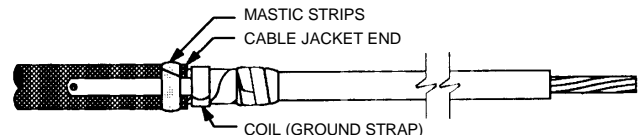

Figure 4
- b. Wrap 1 piece under grounding strap and as close as possible to cable jacket end. Stretch mastic to maintain low profile. Push strap into mastic and wrap second piece over ground strap (**Figure 4**).